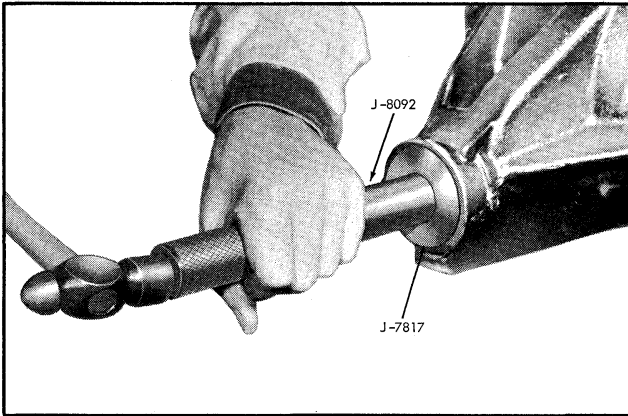

Fig. 4-34 Installing Front Pinion Bearing Outer Race
2. If front pinion bearing is to be replaced, install new outer race using installer J-7817 with driver handle J-8092. See Fig. 4-34.